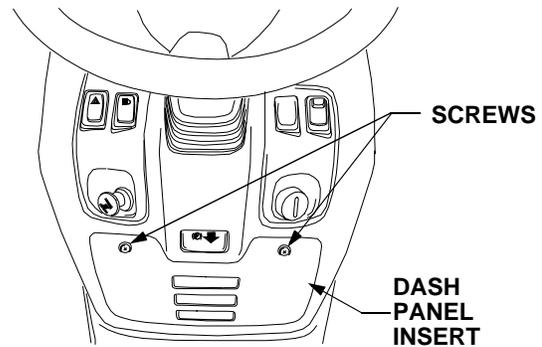

Figure 41
The fuse center is located on the inside *right* of the dash panel. To access the fuse center, remove the dash panel insert by removing the two screws. See Figure 41.
- Remove the dash panel insert by removing the two screws. Refer to Figure 41.